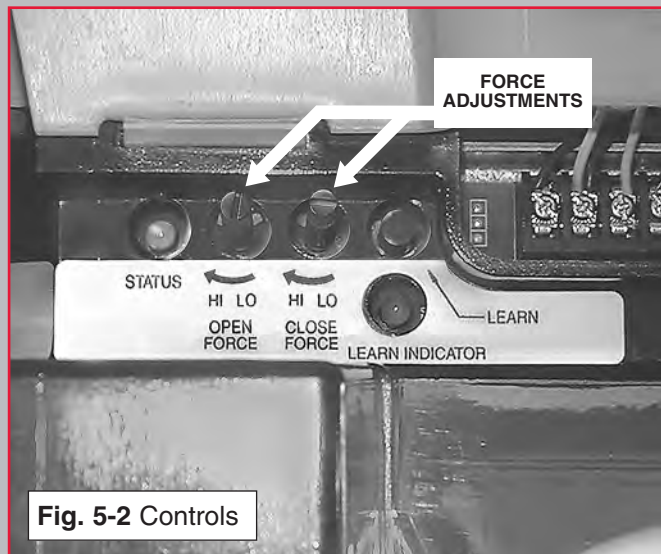

Fig. 5-2 Controls
2. **Adjust "CLOSE" limit switch (Fig. 5-2).**
3. **Adjust "OPEN" limit switch (Fig. 5-2).**
1. Adjust “OPEN FORCE” (Fig. 5-2).
2. Adjust “CLOSE FORCE” (Fig. 5-2).